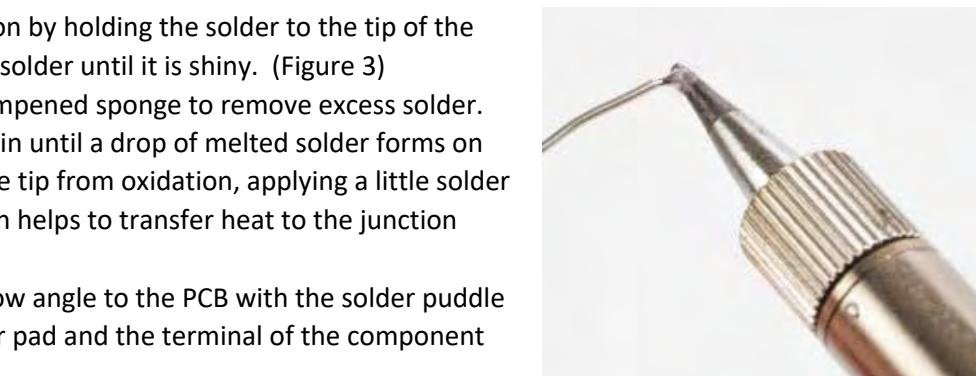

Figure 3
- Tin the tip of the soldering iron by holding the solder to the tip of the hot iron, coating the tip with solder until it is shiny. (Figure 3)